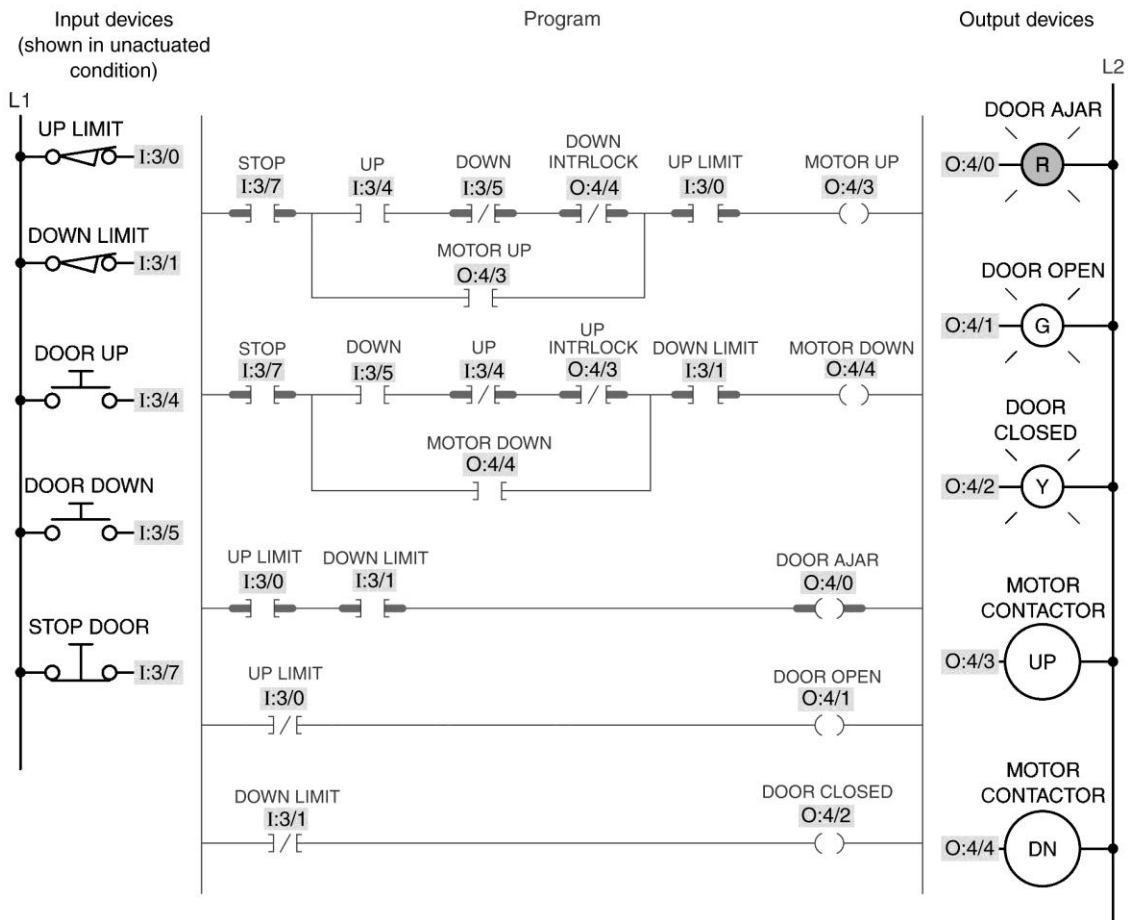

Figure 6-43 Motorized door program for assignment 20.
20) The motorized door program of Figure 6-43 is described in the text. Prepare an I/O connection diagram and ladder logic program for the process. Use addresses that apply to your PLC. Enter the program into the PLC, and prove its operation.